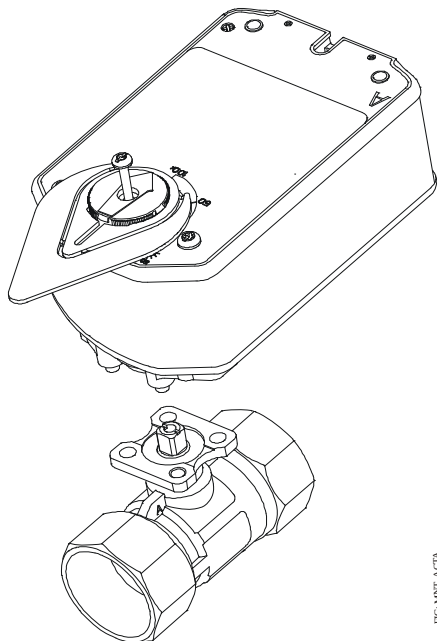

Figure 9: Mount the Actuator
- Install the actuator on the ball valve (Figure 9). Tighten the actuator mounting screw to a torque of 10 to 12 lb·in. (1.1 to 1.4 N·m) and snap the large adjustable pointer into place.